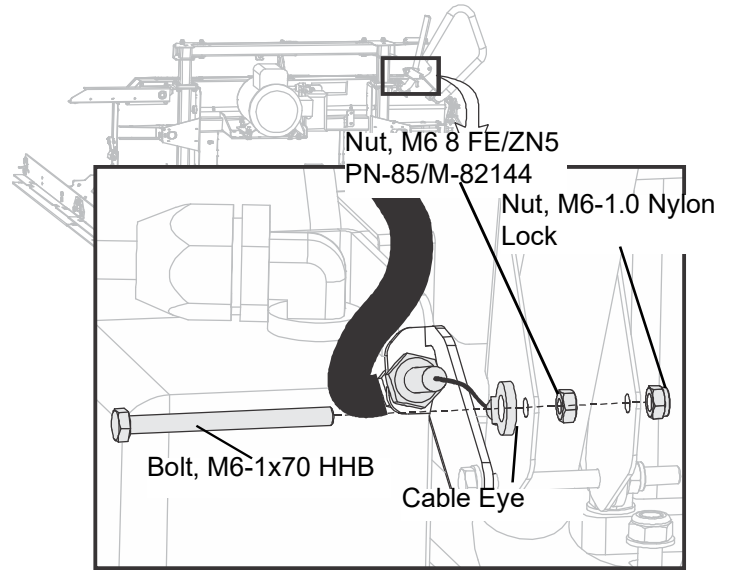

FIG. 1-27
6. Tighten the clutch cable in the bracket with a wrench. See FIG. 1-27.